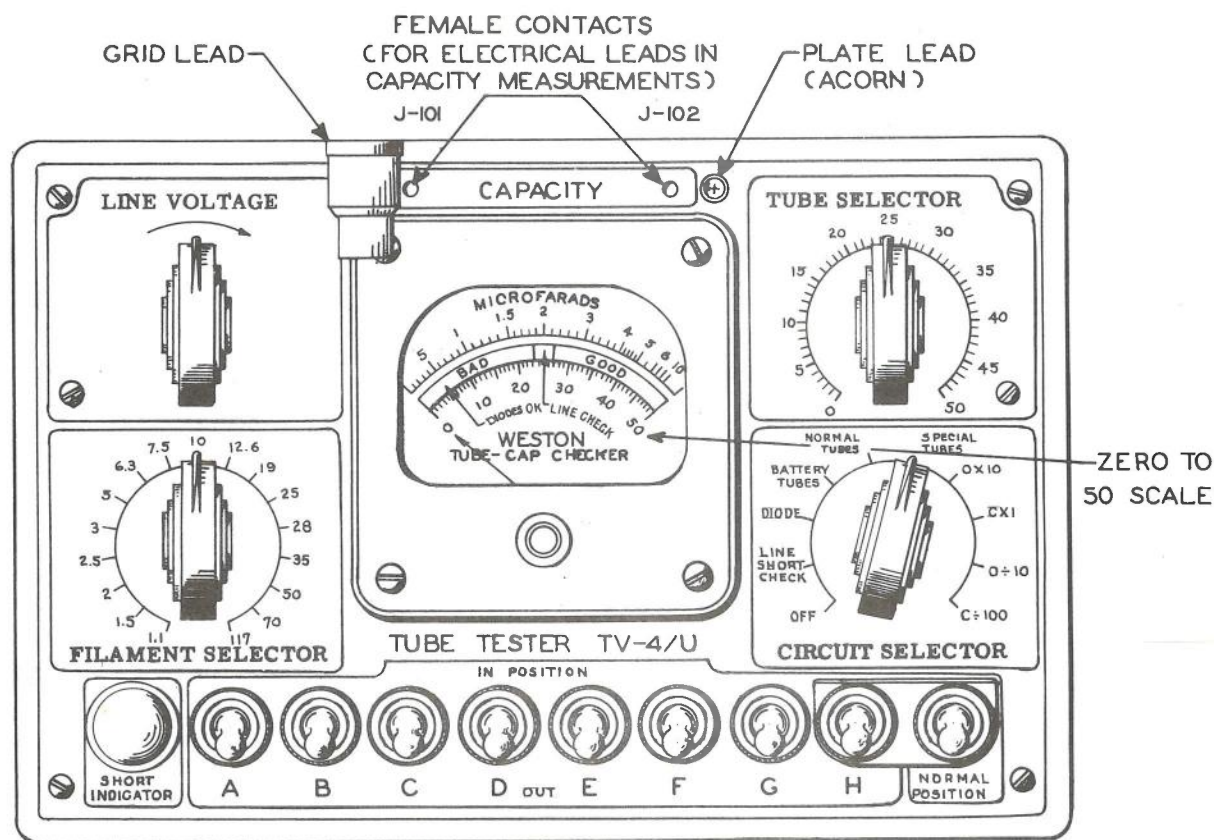

Figure 1-2. Tube Tester TV-4/U, Identification of Controls on Control Panel
b. TUBE TESTER TV-4/U. (See figure 1-2.) - This unit consists of a molded bakelite control panel on which are mounted the meter and all of the controls, a socket panel for all of the tube test sockets and a wrap-around case enclosing the complete unit. Pin jacks are available at the top of the control panel for capacity readings in addition to all of the tube test functions. The complete assembly is mounted in a steel case and is pivoted on a full length hinge so that it can be raised into operating position through an angle of 45 degrees. The hinge is fastened to the front face of the Tube Tester and the front edge of the Case. A supporting arm, hinged at the bottom of the Case, holds the Tube Tester at a 45 degree angle when it is pivoted into position for operation.